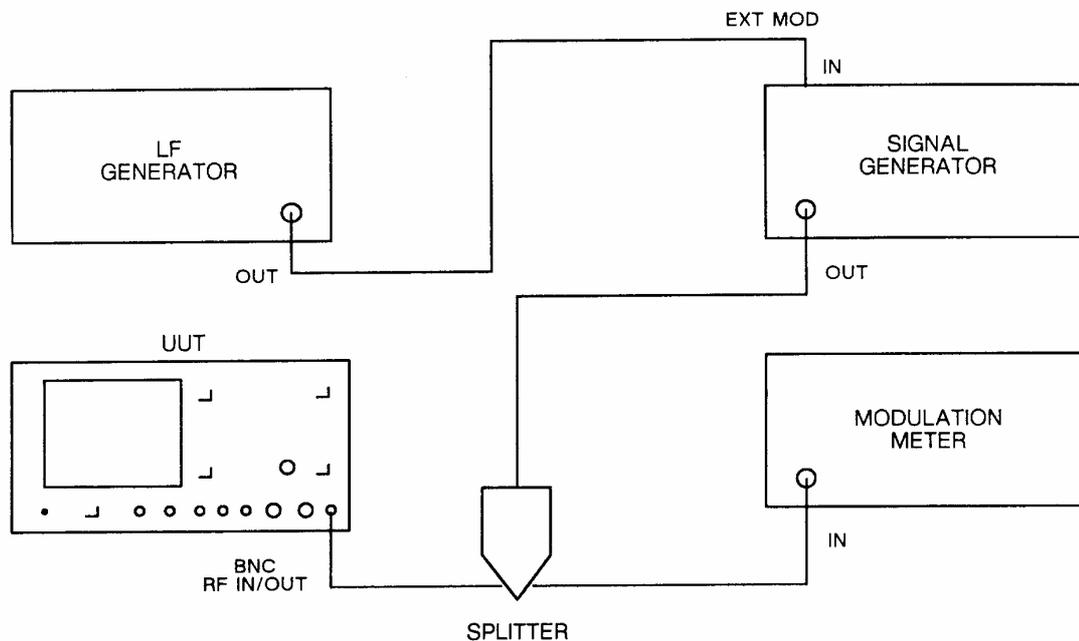

Fig. 5-1-5 Test equipment connections for modulation meter AM & FM
- (2) Set the UUT to TX, AM, 0.3 – 3.4 kHz BAND PASS filter, BNC input socket.
- (3) Set the signal generator to carrier frequency 100 MHz, level 7 dBm, 80% AM, 1 kHz internal modulation rate.
- (4) Set the modulation meter to monitor AM in a 0.3 – 3.4 kHz bandwidth.
- (5) Check that the AM level indicated on the UUT display is within $\pm 5\%$ of reading ± 1 digit of modulation depth indicated on the modulation meter. Check that the AM bar chart indicates the AM being applied.
- (6) Repeat the above for modulation depths from 0 to 90% and carrier frequencies between 1.5 and 100 MHz.
- (7) Repeat for modulation depths from 0 to 80% and carrier frequencies between 1.5 and 400 MHz.
- (8) Connect an LF generator to the signal generator as shown in Fig. 5-1-5.
- (1) Connect the equipment as shown in Fig. 5-1-5.
- (2) Set the UUT to TX, FM, 0.3 – 3.4 kHz BAND PASS filter, distortion/SINAD/SN off, BNC input socket.
- (3) Set the signal generator to carrier frequency 500 MHz, level 13 dBm, 25 kHz FM, 1 kHz internal modulation rate.
- (4) Set the modulation meter to monitor FM in a 0.3 to 3.4 kHz bandwidth.
- (5) Check that the FM level indicated on the UUT display is within ±5% of reading ±1 digit of modulation deviation indicated on the modulation meter. Check that the FM bar chart indicates the FM being applied.
- (6) Repeat the above for random carrier frequencies from 1.5 to 1000 MHz and random deviation between 0 and 25 kHz.
- (7) Set the UUT to TX, FM, 15 kHz LOW PASS filter, BNC input socket.
- (8) Set the signal generator to carrier frequency 500 MHz, level 13 dBm, 25 kHz external FM at 10 kHz modulation (from the LF generator).